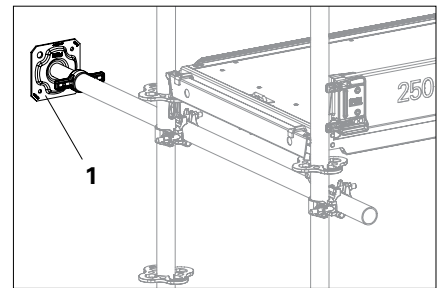

Fig. B3.01b
1. Securely fix the scaffold tube (13) to the Standard UVR using Standard Couplers (19).
PERI recommends inserting an Adjustable Base Plate UJS (1) into the scaffolding tube if the distance to the wall has to be adjusted more often. Secure Adjustable Base Plates against falling out. (Fig. B3.01b)